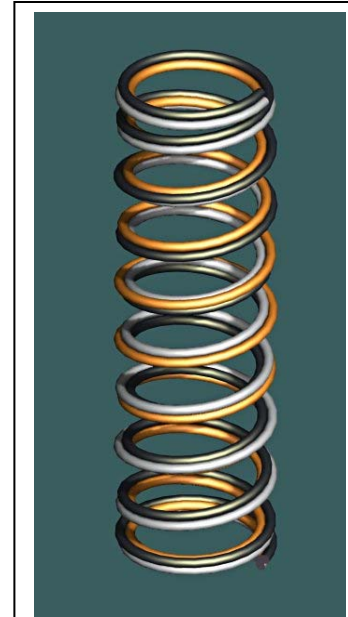

Figure 18
*Note about twist:* Although the difference is usually not noticeable, the actual twist of a Rail Sweep will not be exactly equal to the assigned *Twist Angle*, differing perhaps by as much as several hundred degrees. The reason is that, when the assigned *Twist Angle* is zero, some twist will nevertheless be present. Figure 18 demonstrates this quirk. Even though the assigned *Twist Angle* is zero, you can verify that some twist does